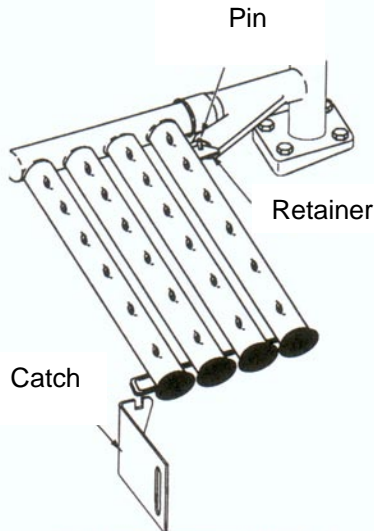

Fig. 22
15. Insert the lower wash arm at an angle between the conveyors and install the retainer over the pin. Rotate the arm toward the catch and engage the hook into the notch (Fig.22).